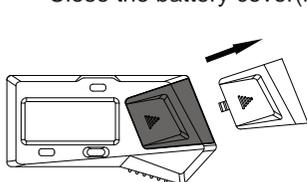

fig.1
---Remove the battery cover (fig.1)